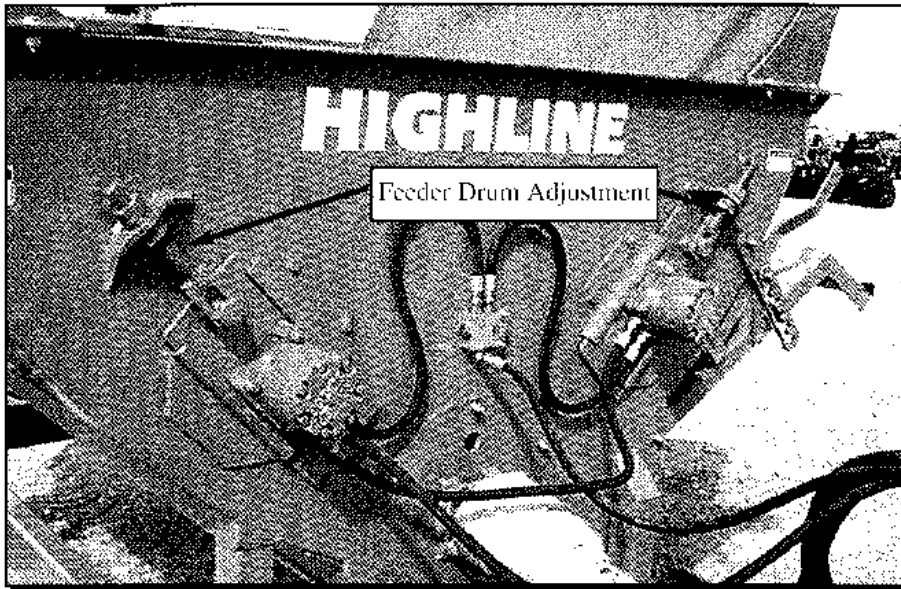

Figure 9 Feeder Drum Adjustment
- b. Raise feeder drum using adjusting bolts on the front and rear side of the processor (Figure 9 below). This decreases the amount the flail penetrates the bale.